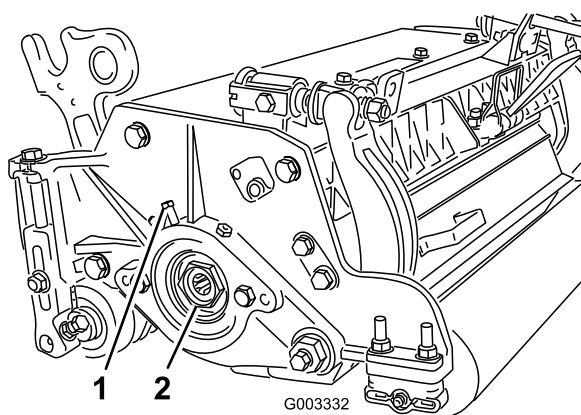

Figure 31
- A. Loosen the external setscrew securing the bearing adjuster nut to bearing housing located on the left side of the cutting unit (Figure 31).